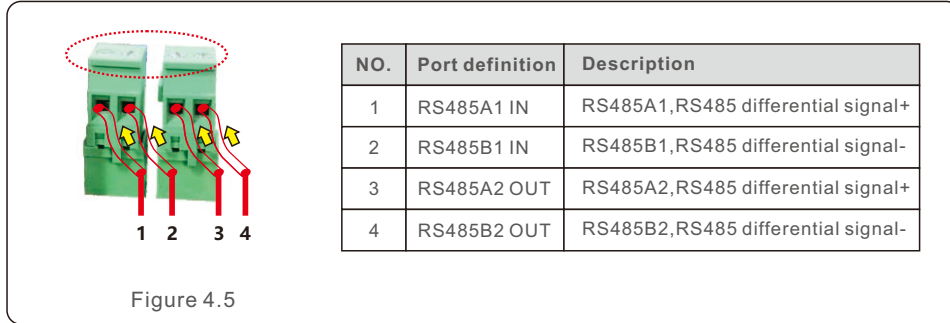

Figure 4.5
- Remove the terminal block on user interface board(See Figure 4.5).
- Insert the cable into the terminal board and tighten the screws in dotted area(See Figure 4.5).